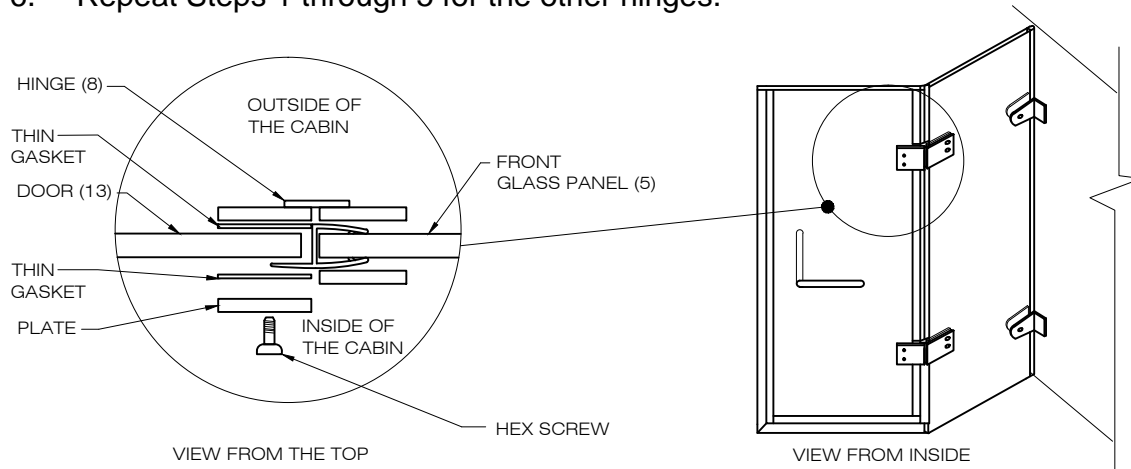

FIG.8
3. Place thin gasket on each of the doors, between the glass and the hinge. Continue to hold door in position. [SEE FIG.8]
4. Install the hinges as illustrated (FIG.8) using the allen key (supplied with the hinges).